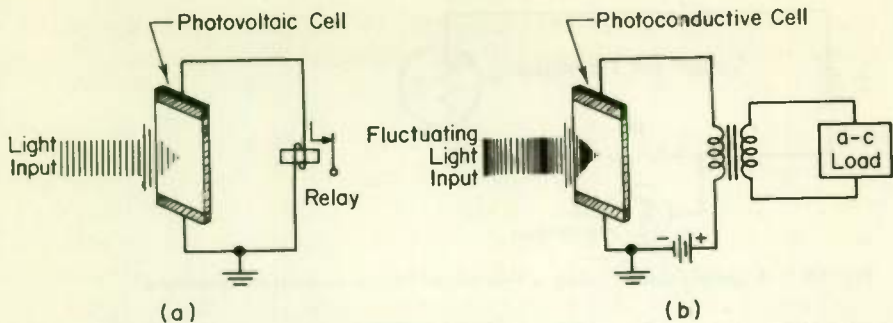

Fig. 27 Simple circuits using a photovoltaic cell in (a) and a photoconductive cell in (b).
In Fig. 27(a) a photovoltaic cell is used with a sensitive relay, because the current generated by the light input is sufficient to operate the relay. Figure 27(b) shows the photoconductive cell used with an a-c signal (formed by the fluctuating light input). A bias voltage is required with the (160) _____ cell, but not with the (161) _____ cell.